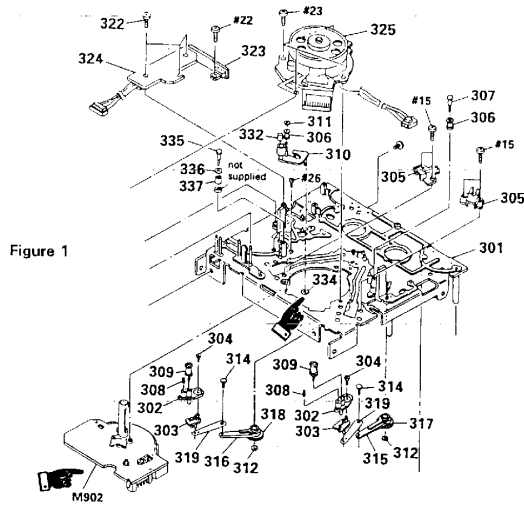

Figure 1
1. Remove the Capstan Motor M902 (see Figure 1).
2. Remove the Pinch Roller Assembly by removing the retainer washer (ref. 334) and lifting the Pinch Lever Assembly from the top side of the mechanism.